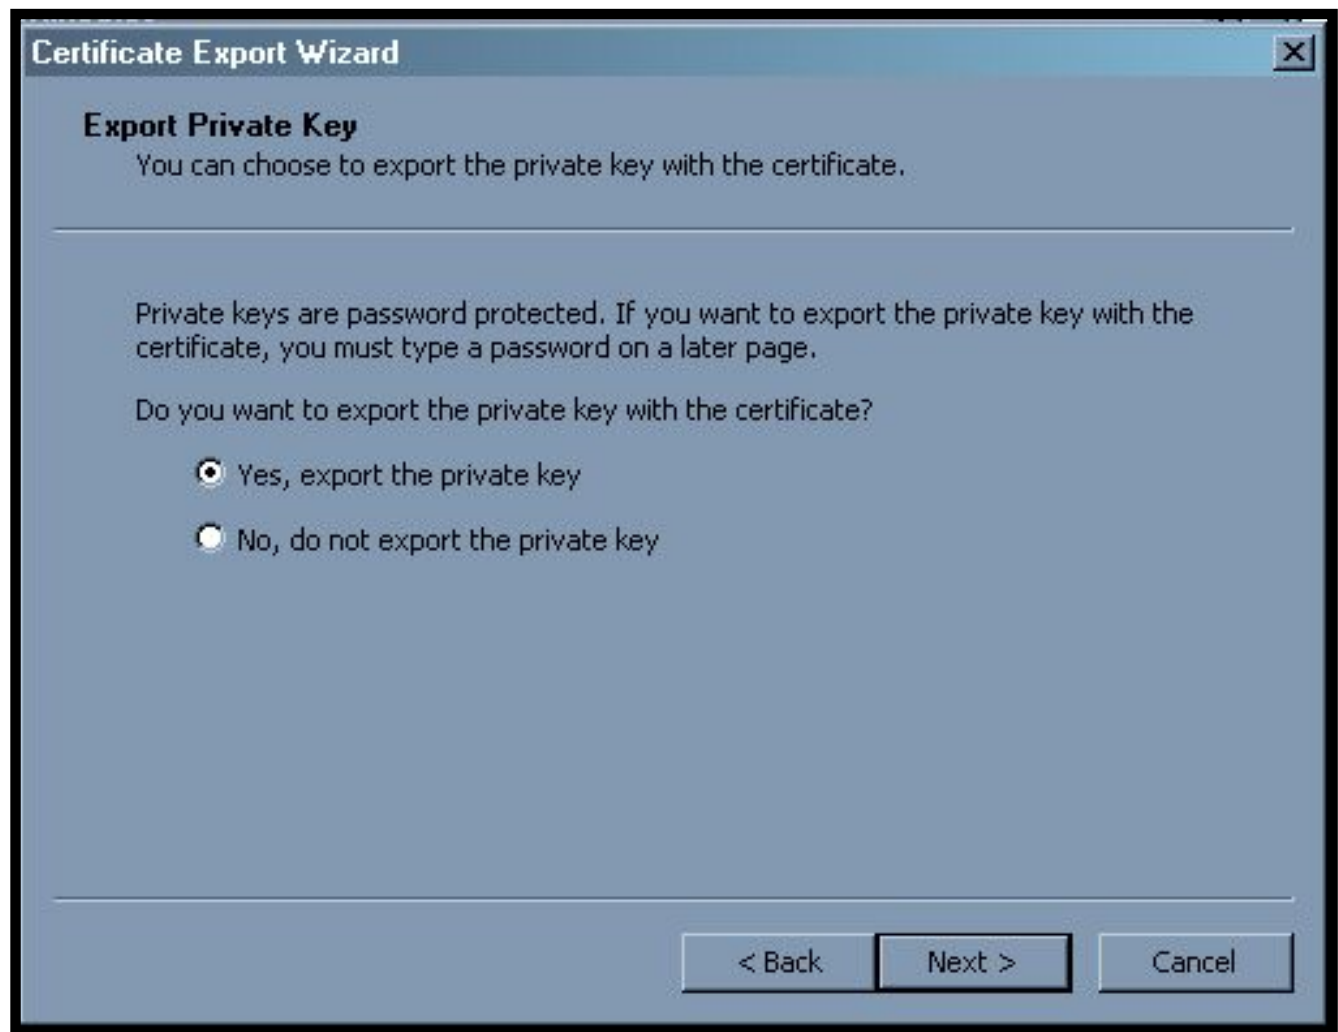

Figure 4.1-4: Export Private Key Screen
5. Click the *Next* button on the "Export Private Key" screen. Leave the default settings as they are, as shown in Figure 4.1-4 below.